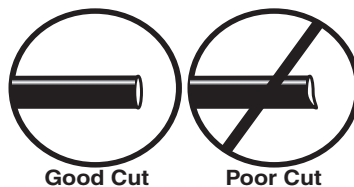

fig. 5
WHEN CUTTING OR TRIMMING THE AIR LINE, USE A HOSE CUTTER, A RAZOR BLADE OR A SHARP KNIFE. A CLEAN, SQUARE CUT WILL ENSURE AGAINST LEAKS. DO NOT USE WIRE CUTTERS OR SCISSORS TO CUT THE AIR LINE. THESE TOOLS MAY FLATTEN OR CRIMP THE AIR LINE, CAUSING IT TO LEAK AROUND THE O-RING SEAL INSIDE THE ELBOW FITTING (FIG. 5)
5. Push the inflation valve through the hole and use the rubber washer (EE), flat washer (DD), and another 5/16" nut (GG). Tighten the nuts to secure the assembly in place.
6. Route the air line along the frame to the air fitting on the air spring. Keep AT LEAST 6"(150mm) of clearance between the air line and heat sources, such as the exhaust pipes, muffler, or catalytic converter. Avoid sharp bends and edges. Use the plastic zip ties (BB) to secure the air line to fixed, non-moving points along the chassis. Be sure that the tie straps are tight, but do not pinch the air line. Leave at least 2" (50mm) of slack to allow for any movement that might pull on the air line.
8. Cut off air line leaving approximately 12" (300mm) of extra air line. A clean square cut will ensure against leaks (see fig. 5). Insert the air line into the air fitting. This is a push to connect fitting. Simply push the air line into the 90 degree swivel fitting until it bottoms out (9/16" of air line should be in the fitting).